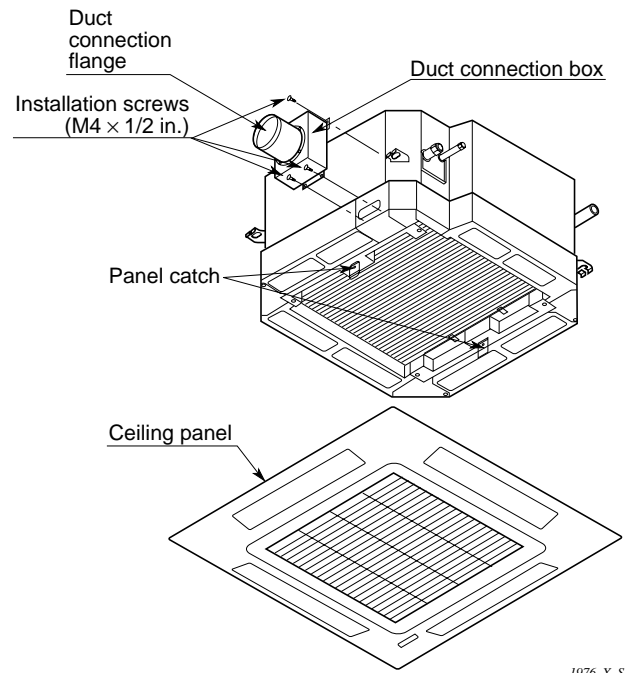

Fig. 3-18
- Fasten the duct connection flange to the duct connection box with the accessory screws. (M4 × L1/2 in., 4pcs) (Fig. 3-18)
- Put the duct connection box into the rectangular hole of the air-intake plenum and fasten it to the both sides of the indoor unit and plenum with the accessory screws. (M4 × L1/2 in., 3pcs) (Fig. 3-18)